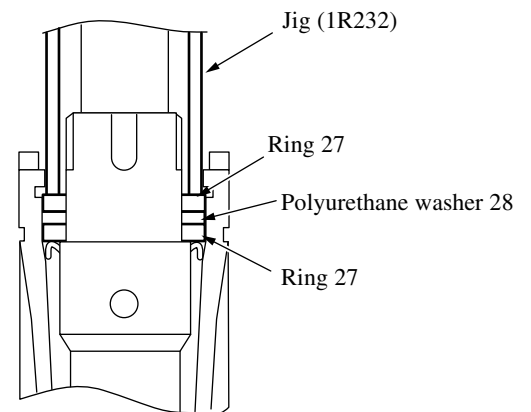

Fig. 13
- 3) Using Jig (1R 232), install Ring27, Polyurethane washer28 and Ring27 in this order. (See Fig. 13)